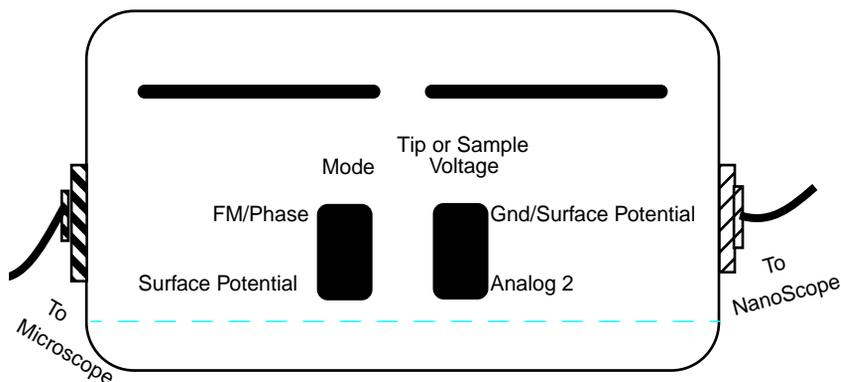

Figure 230-16 Toggle Switches on back of Extender Electronics Module
1. Locate the two toggle switches on the backside of the Extender Electronics box (Figure 230-16), then verify that they are toggled as shown in Table 230.1.